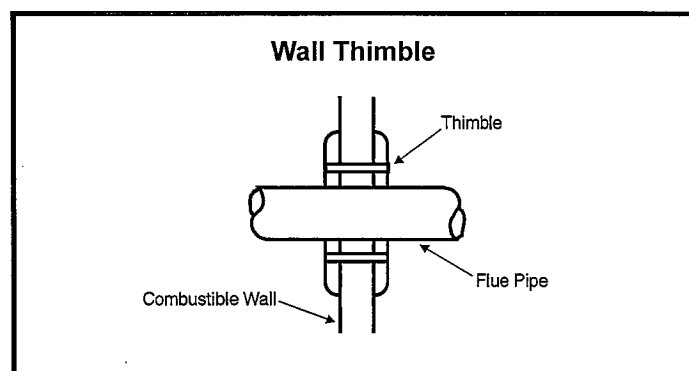

Figure 6
7. The flue pipe may pass through a wall where provisions have been made for a thimble as specified in the Standards of the National Board of Fire Underwriters (see Figure 6).